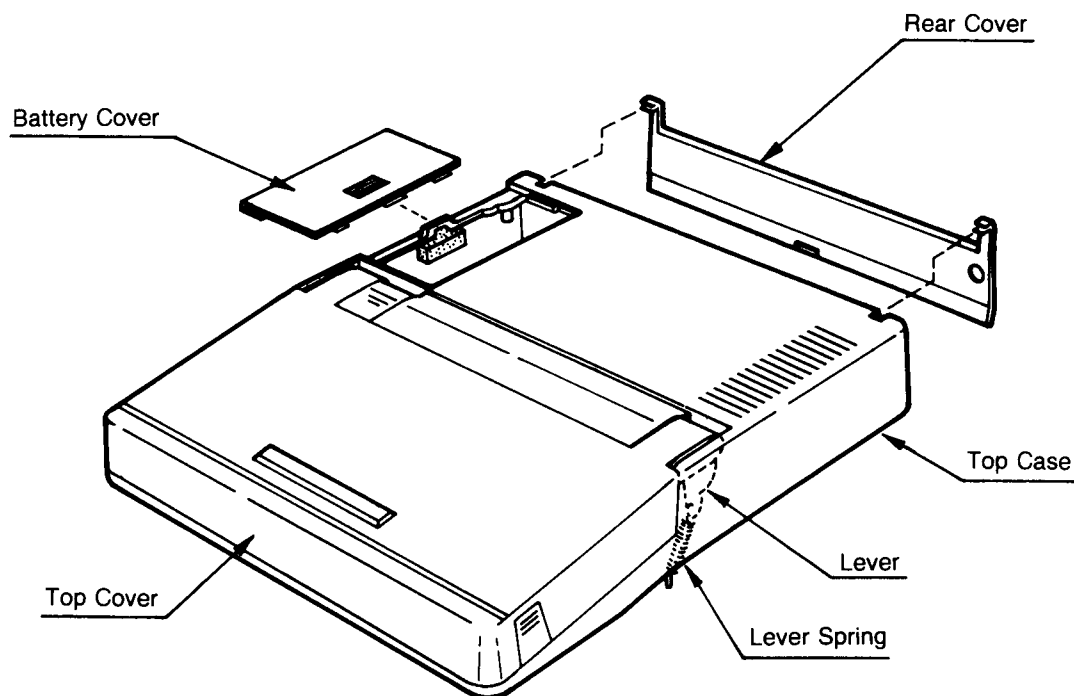

Figure 2-5. Battery Cover and Rear Cover Removal
- (1) Remove the Battery Cover and the Rear Cover as shown in Figure 2-5. (Push the recessed portion of the Battery Cover to let it disengage with the Top Cover and slide it outward.)